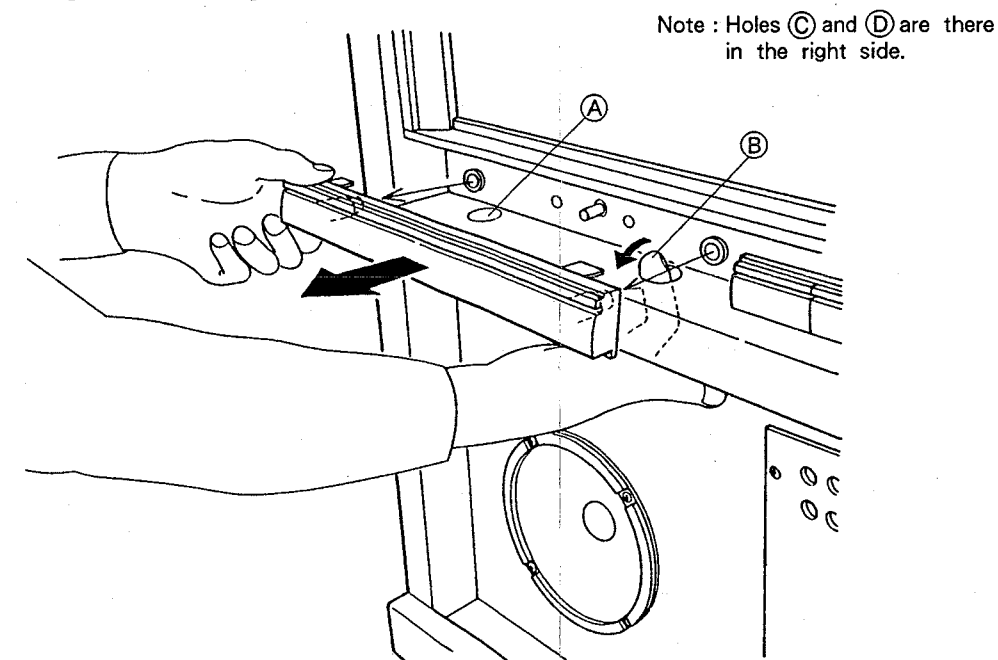

Fig. 5-1 Removal of the side panel assembly (Left side view)
2. Insert your fingers into the holes ① and ②, or ③ and ④ (see Fig. 5-1) on the cabinet just under the side panel, and push the side panel forward.